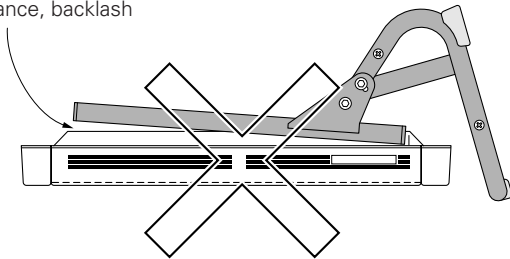

Fig. 1
3. When mounted to the stand frame, the display must have zero clearance and/or backlash to the stand frame, or the plasma display nut will be damaged (Fig.1). Loosen the four bolts securing the joint pipe, as indicated by the arrow, and adjust to remove any clearance or backlash. Then mount the display (Fig.2).